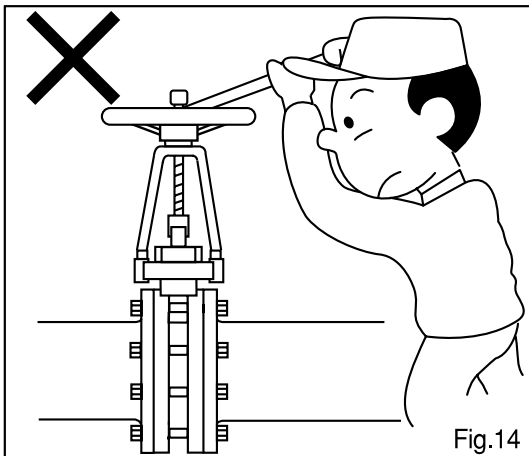

Fig.14
- **Cares when operation by handle** : Operate handle with hand. Valve will damage if handle is operated by lever or other tools. Avoid using them. (Fig.14)